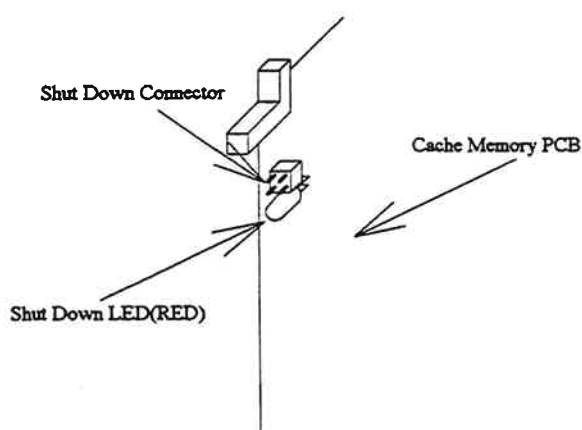

Fig. 3.4.1.8.2-1 Location of the Shut Down LED
- While referring to Fig. 3.4.1.8.2-1 and Table 3.4.1.8.2-1 or Table 3.4.1.8.2-2, check the Shut Down LED on the Cache Memory PCB. See "Connection of Shut Down Jumper (INST03-2600)" if the Shut Down LED is not on.